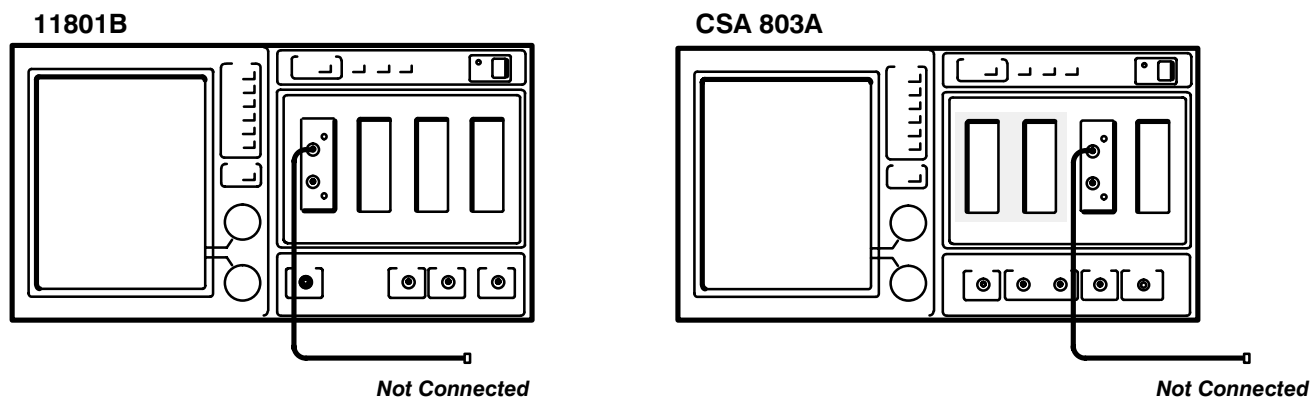

Figure 11: Connections for Example
- ☐ **Step 3:** Attach one end of the cable to any SD-24 sampling head input. Leave the other end unattached. See Figure 11.